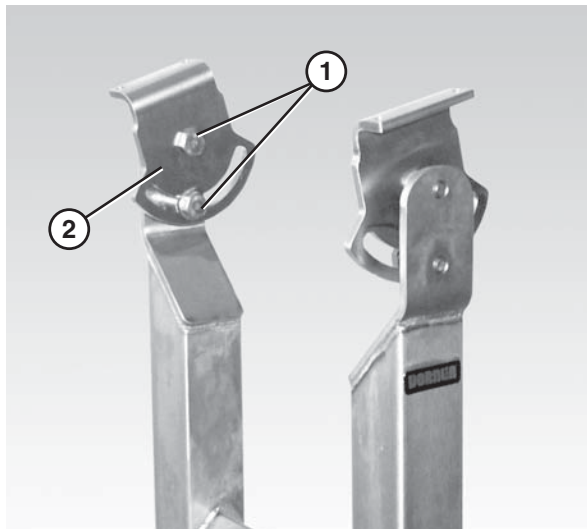

Figure 8
- For slotted brackets, loosen the two bracket screws (**Figure 8, item 1**) and adjust the bracket (**Figure 8, item 2**) so that the top is at approximately the same angle as the conveyor. Do not tighten the screws.